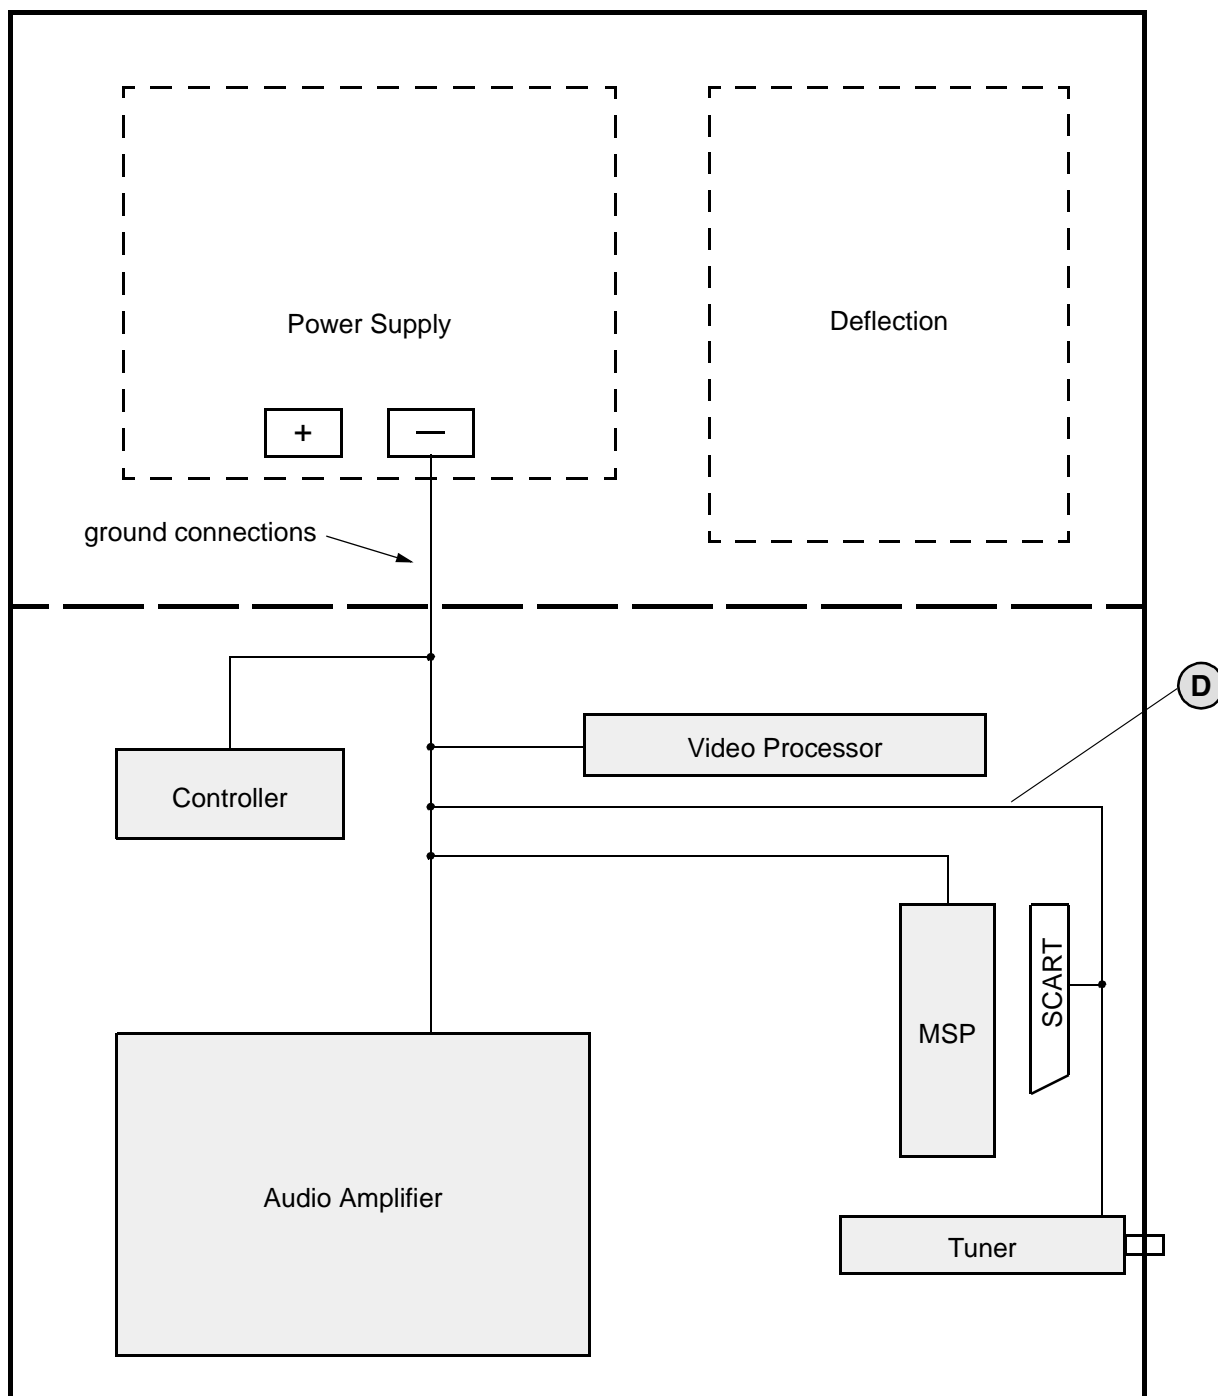

Fig. 1: Typical TV-chassis layout with recommended ground connection design
2. Ground connection between TV connector and power supply (see Fig. 1: **(D)**)
Figures 1 and 2 show exemplary layouts with the MSP 34xx (in 64-pin PSDIP package) and the above recommendations in detail.